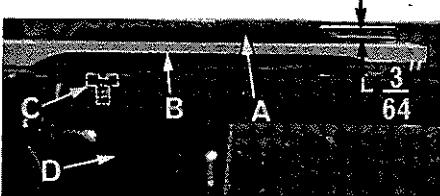

Fig. 8
Set the feed dog (A, Fig. 8) in the throat plate (B) so there is equal clearance on all sides. See that the tips of the teeth extend the depth of a tooth or approximately $3/64$ inch above the throat plate and are parallel with the throat plate at high point of travel. Adjust the supporting screw (C), under the feed dog, to maintain this setting. Screw (D) is used to hold feed dog in position.